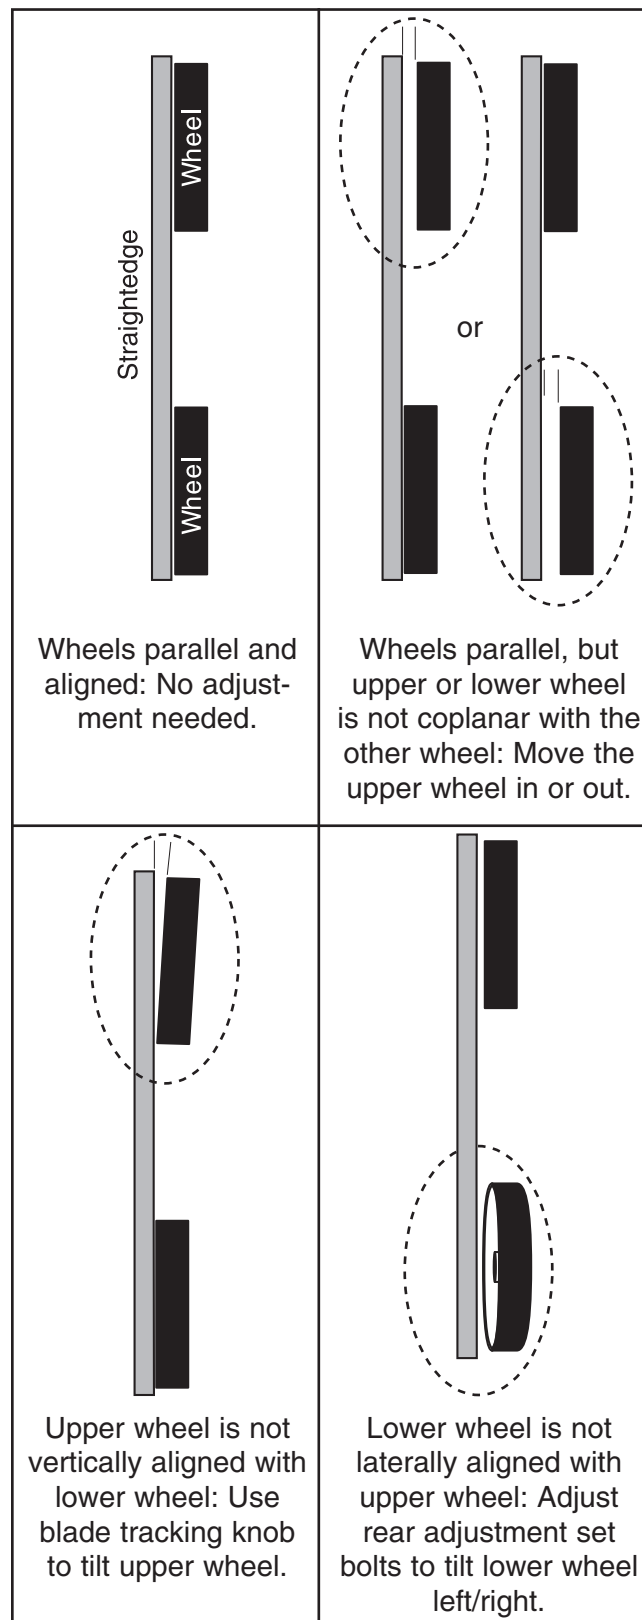

Figure 70. Wheel alignment illustration.
4. Check wheel alignment, and adjust tracking knob to bring both wheels into alignment as much as possible. If wheels cannot be adjusted coplanar, use **Figure 70** to determine how to proceed with alignment adjustments.